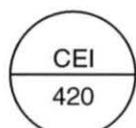

Figure 52. Instrument Tag
9. Determine the measured variable indicated in the instrument tag in figure 52.